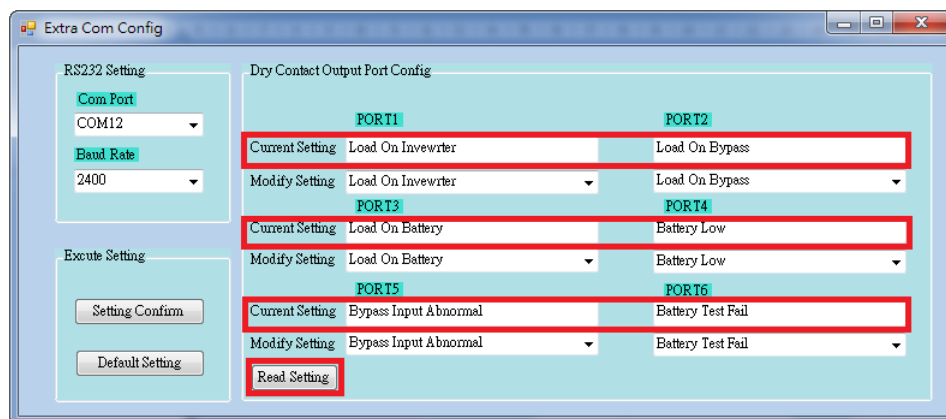

Figure 5-21
Step 3: Click "Read Setting" button to check the current setting of the dry contact output port. Refer to screen in Figure 5-21.